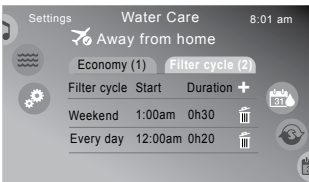

Figure 12.1e
1. Tap **Filter cycle (2)** to program cycles, Figure 12.1e.